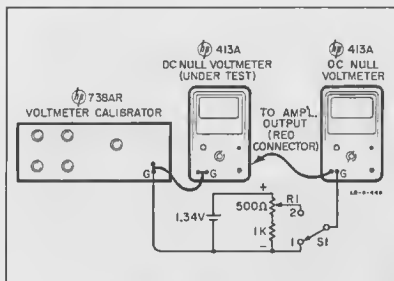

Figure 5-8. Amplifier Calibration Test Setup
a. Connect the accuracy indicator and the voltmeter calibrator to the 413A under test as shown in figure 5-8.
b. Set S1 in figure 5-8 to position 1.
f. Set S1 in figure 5-8 to position 2 and set voltmeter calibrator function switch to DC+.
j. Reverse the battery connection in the test setup in figure 5-8, and repeat step i using negative test voltages. If necessary, standardize the accuracy indicator for negative voltages. (Follow paragraph 5-37, steps a through i with battery connections reversed.)